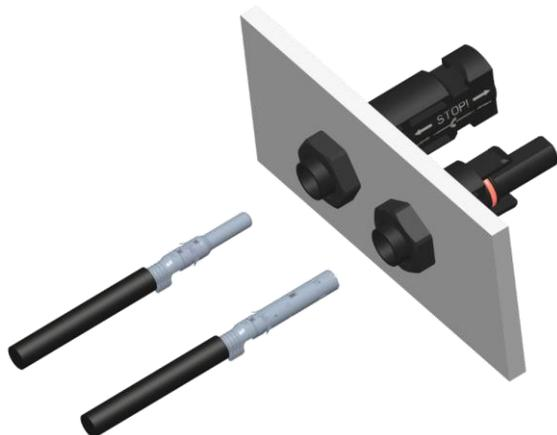

Figure 17
- ✧ 压接好的插针/插套插入到公端面板连接器/母端面板连接器内，直至其啮合（如图 17）。轻轻拉动导线，检查金属件是否啮合牢固（如图 18）。
Insert the crimped male or female terminals into corresponding male or female panel connectors separately until they engage (Fig.17). Pull lightly on the lead to check that the metal part has engaged (Fig. 18).